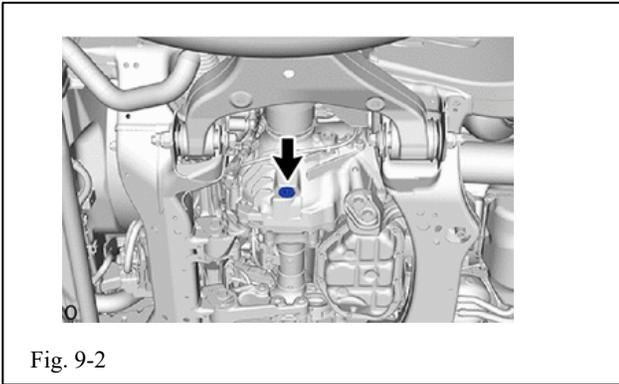

Fig. 9-2
- (3) Using a 10 mm hexagon wrench, reinstall the drain plug with a new washer (Fig. 9-2).